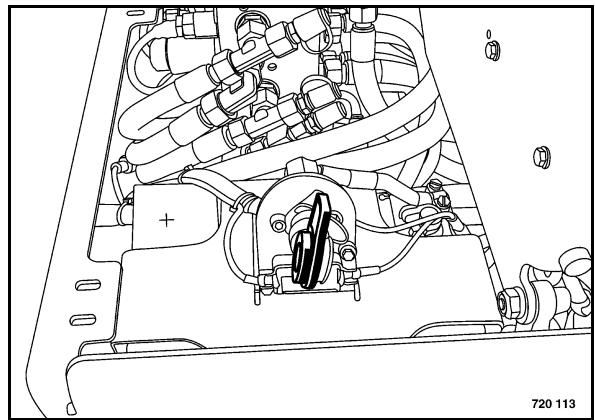

Fig. 52
- Switch off and pull out the main battery switch (Fig. 52).